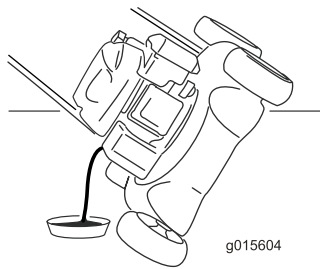

Figure 26
5. Tip the machine onto its side, with the dipstick down, to drain the used oil out through the oil fill tube (Figure 26).